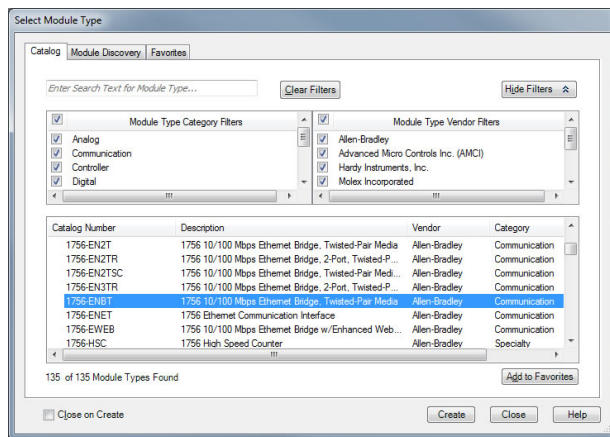

Figure 30: Adding a New Module
- 5) Select the “1756-ENBT”, and click “Create”. Refer to Figure 30.